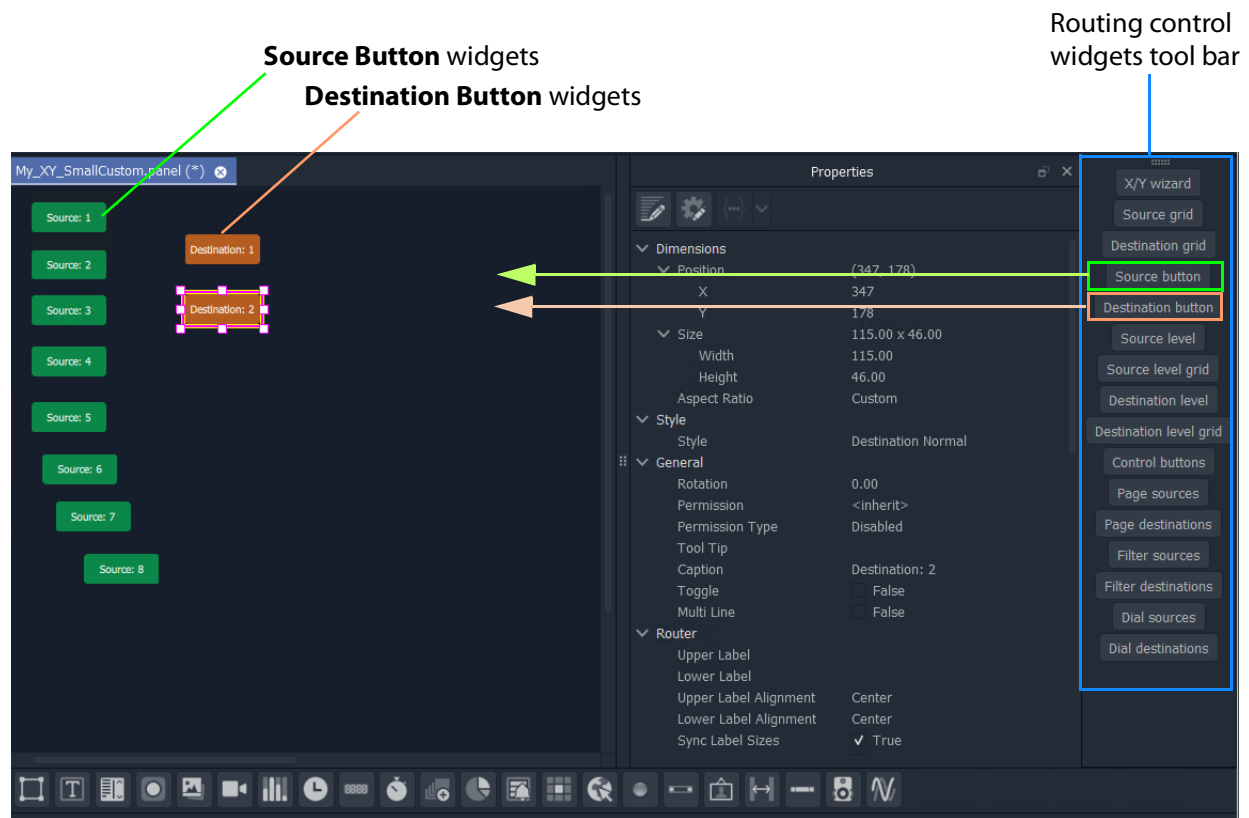

Fig. 12-41: Adding Source and Destination Buttons
- 1 Add 8 **Source Button** widgets from the Routing widget tool bar (see Figure 12-41).